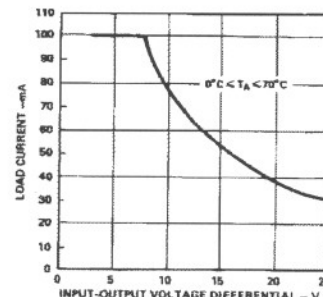

Figure 13. Maximum Load Current vs. Regulator Input-Output Voltage Differential
**Bridge Excitation (2B31):** The adjustable bridge excitation is specified to operate over a wide regulator input voltage range (+9.5V to +28V). However, the maximum load current is a function of the regulator circuit input-output differential voltage, as shown in Figure 13. Voltage output is short circuit protected and its temperature coefficient is  $\pm 0.015\% V_{OUT}/^\circ C$  max ( $\pm 0.003\%/^\circ C$  typ). Output temperature stability is directly dependent on a temperature coefficient of a reference and for higher stability requirements, a precision external reference may be used.